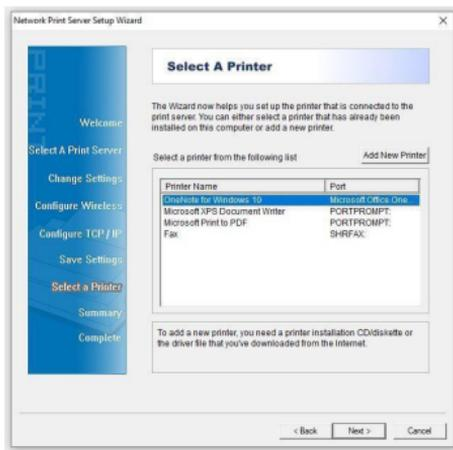

Figure 9
- At the **Select a Printer** screen, select the desired **Printer** to use with the **Print Server**. If the desired **Printer** does not appear in the list, select **Add New Printer** and complete the steps required to add a new **Printer**. Select **Next**. (Figure 9)